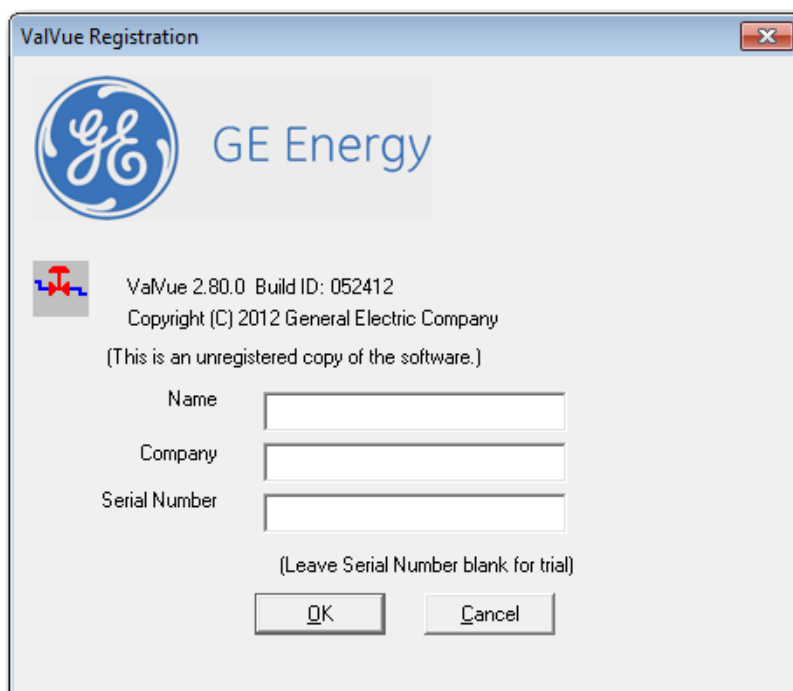

Figure 11 ValVue Owner and Product Key Registration Window
2. When you start ValVue Figure 11 appears.